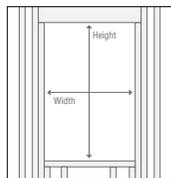

fig. 1
- Check the rough opening dimensions against the units actual frame width and height. **(fig. 1)**